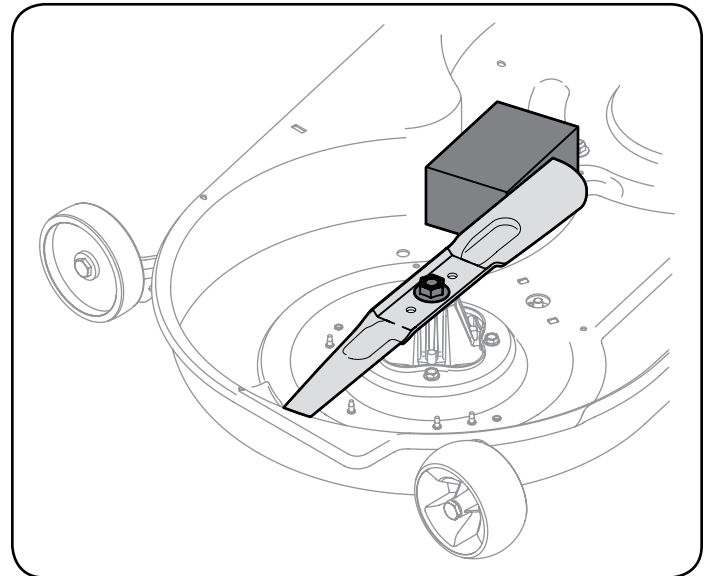

Figure 29
- Place a block of wood between the deck housing baffle and the cutting blade to act as a stabilizer. See Figure 29.
- Remove the hex flange nut that secures the blade to the spindle assembly. See Figure 29.